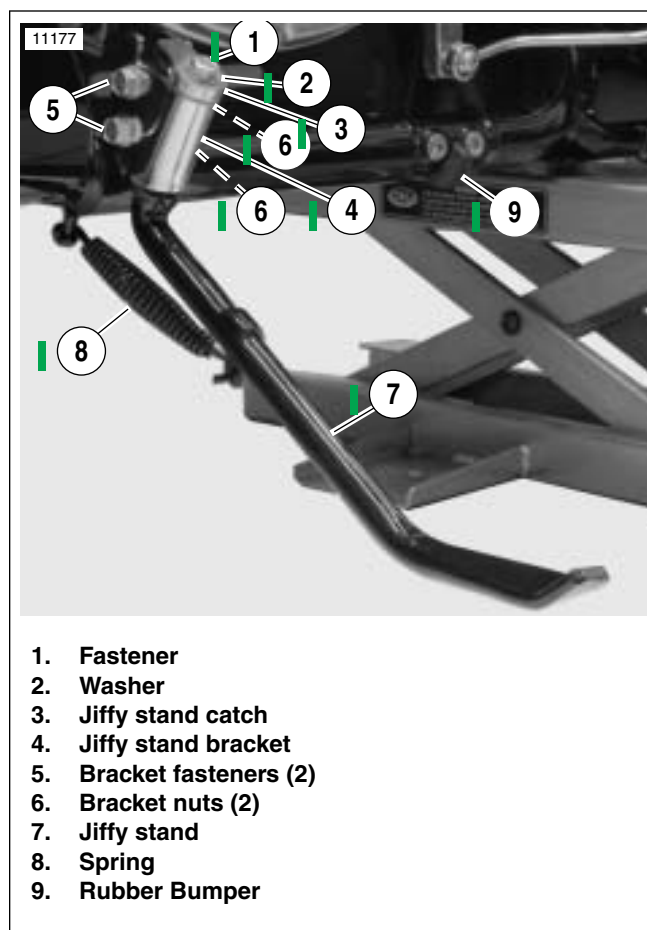

Figure 2-34. Jiffy Stand
2. See Figure 2-34. Remove spring (8).
1. See Figure 2-34. Install jiffy stand bracket (4) and insert jiffy stand fasteners (5) and nuts (6). Tighten to 20-26 Nm (15-19 ft-lbs).
2. Insert jiffy stand (7) from bottom of jiffy stand bracket and install washer (2) and install fastener (1). Tighten to 20-26 Nm (15-19 ft-lbs).
3. Orient jiffy stand to retracted position and install spring (8).